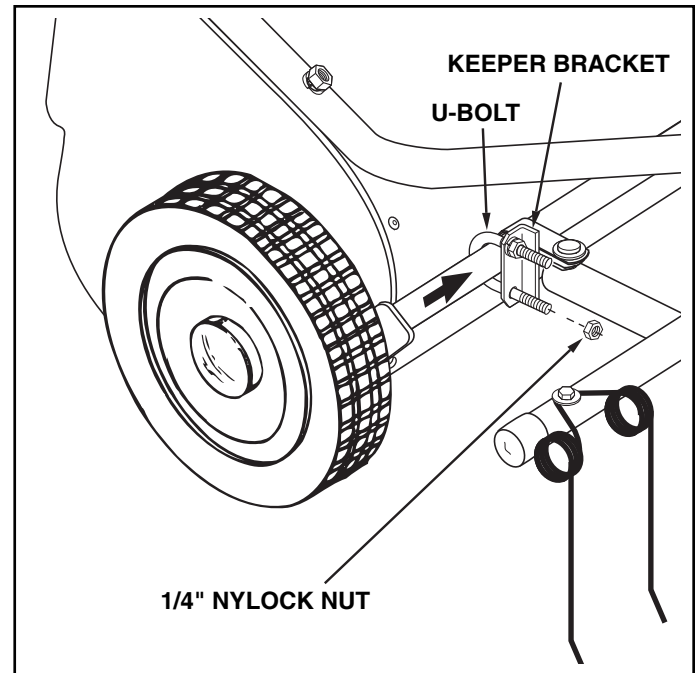

FIGURE 5
- Assemble the keeper brackets (bend to the inside) to the sweeper's hitch tube, outside of the conduit clamps. Use a u-bolt and two 1/4" nylock nuts per bracket. Position the keeper brackets against the sides of the conduit clamps, approximately perpendicular to the ground. Tighten the nylock nuts without bending the keeper brackets. See figure 5.